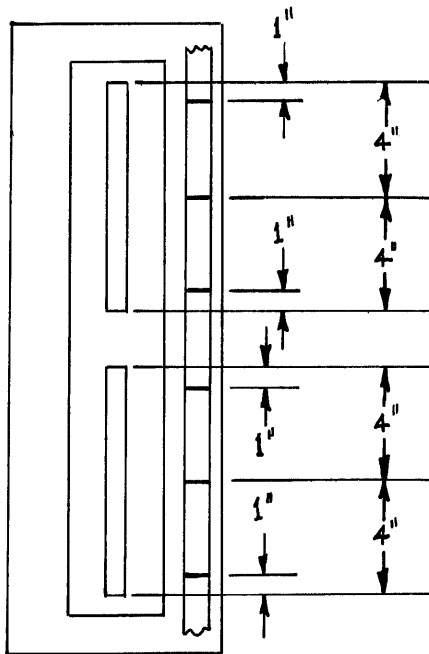

Figure 5-15. Transducer Alignment Measurements
- a. Cut piece of $\frac{1}{2}$ -inch masking tape approximate length of vacuum column and place alongside glass window in front of vacuum column as template as shown in Figure 5-15. Make pencil marks on masking tape, as in Figure 5-15, 1 inch from top and bottom of supply capacitive transducer (metallic strip in column floor in top half of column) and at center of transducer, approximately 3 inches from the top and bottom marks. Make same markings for takeup transducer, in bottom half of column.